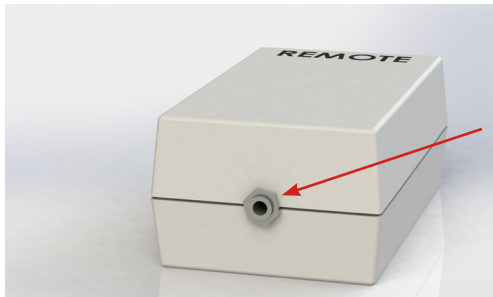
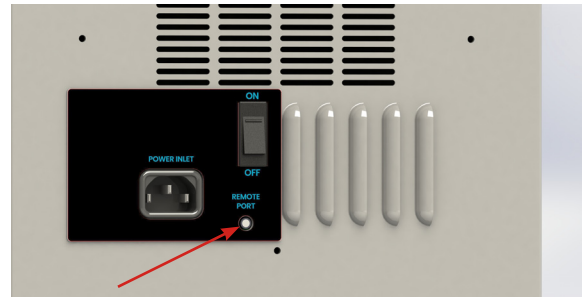

Fig. 12
Fig. 13
4. Plug one end of the headphone cable shown in Fig. 10 into the mill remote's connector shown in Fig. 12. Plug the other end of the cable into the port on the back of the StoneVac Mill Sync labeled "Remote Port" (Fig. 13).